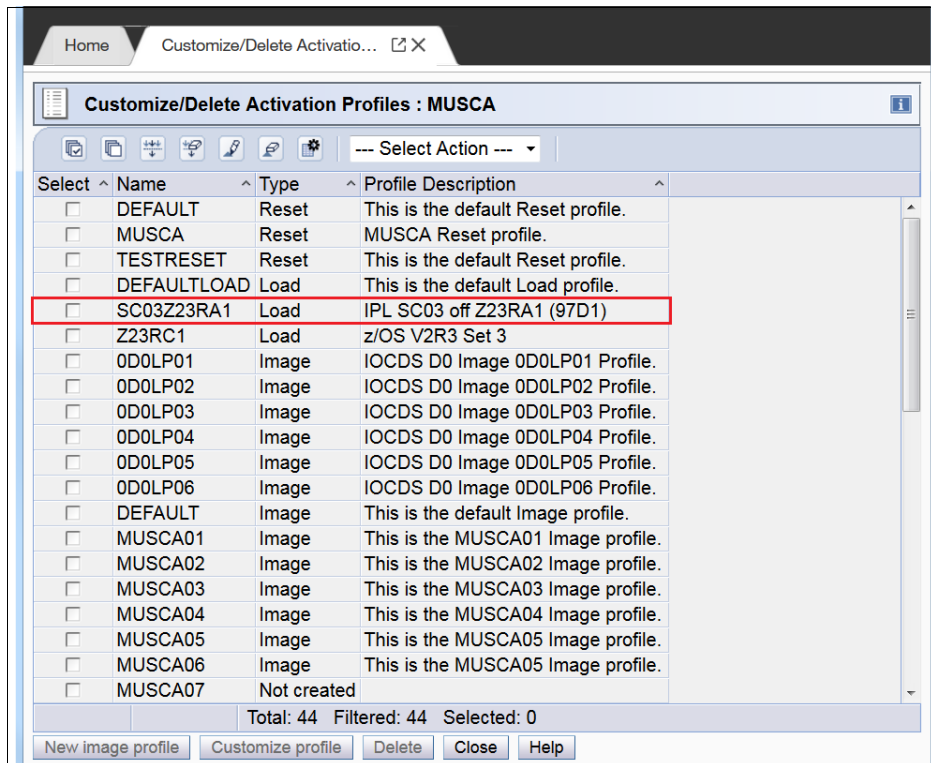

Figure 5-47 Customize Load Profiles: New Load profile
7. Click **Save**. Then, click **OK** to continue to the save window (see Figure 5-47).